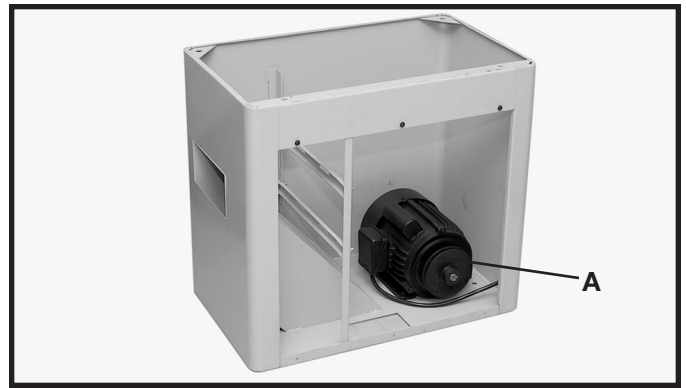

Fig. 5
2. Remove the four bolts that attach the motor (A) Fig. 5 to top of the stand. **NOTE: SAVE THESE BOLTS AS THEY WILL BE USED TO ATTACH THE MOTOR TO THE MOUNTING BRACKETS.**